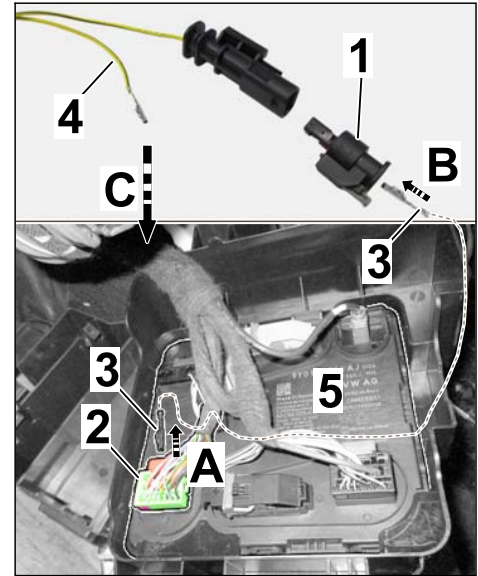

Figure 19
3.2.4 Unpin CY/BU line 0.35² from chamber 5 (connector A, 17-pin, green) (⇒ *Figure 19-A-*).
Then insert it into chamber 1 (connector housing, 2-pin, wire harness for switch) (⇒ *Figure 19-B-*).
3.2.6 Insert YE/BK line (wire harness for switch) into chamber 5 (connector A, 17-pin, green) (⇒ *Figure 19-C-*).